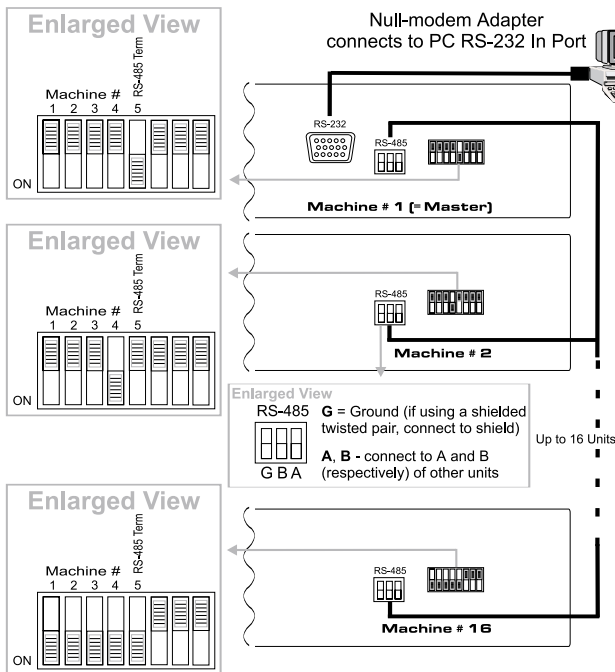

Figure 2: Connecting Several Independent CVG-SW61CS Units to a PC
This section describes using several independent **CVG-SW61CS** units connected to a PC. You can connect up to 16 independent **CVG-SW61CS** units via RS-485, with control (PC) via RS-232, as Figure 2 illustrates.
Connect the RS-485 port on the first **CVG-SW61CS** unit to the RS-485 port on the second **CVG-SW61CS** unit and so on, connecting up to 16 of the **CVG-SW61CS** units via RS-485, as Figure 2 illustrates.